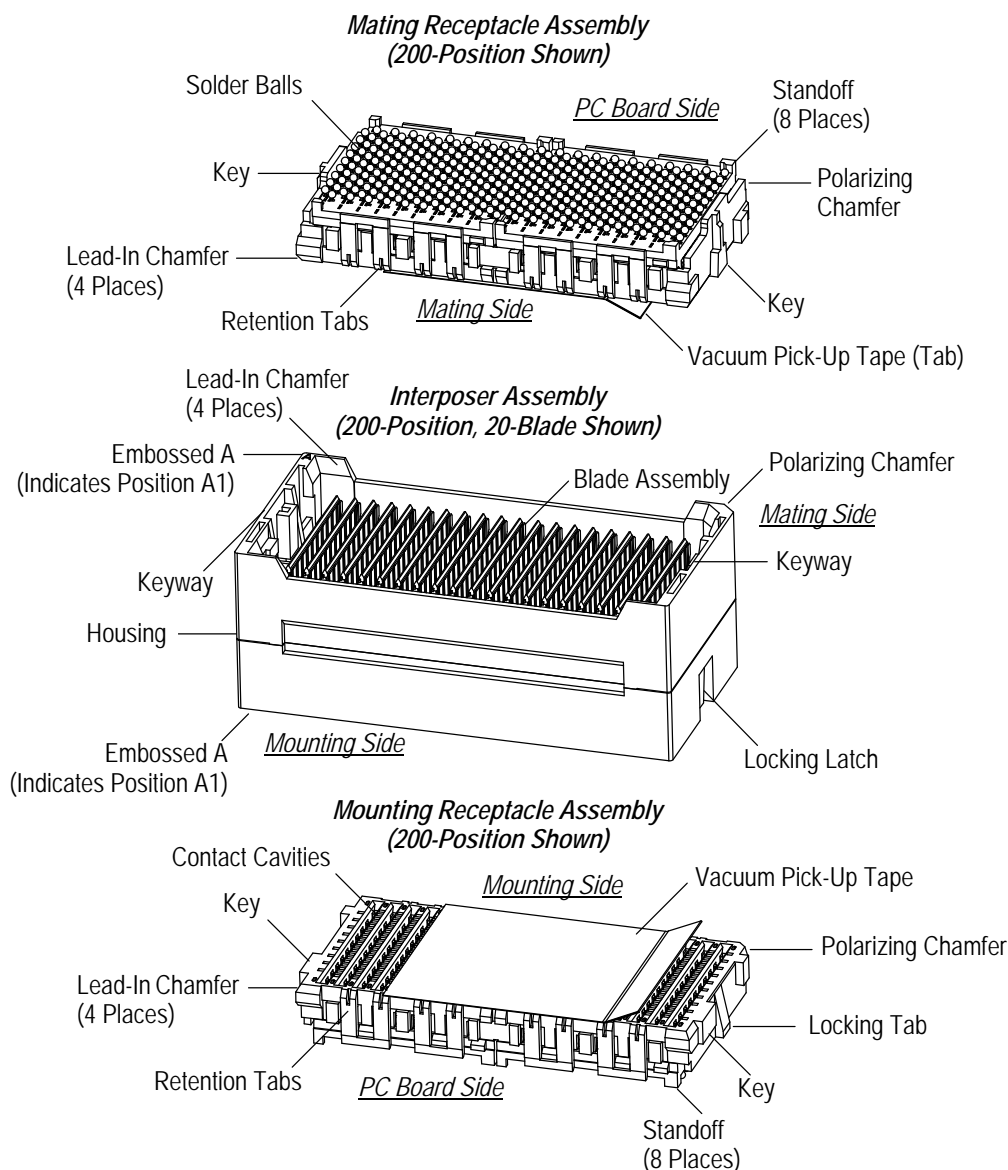

Figure 1
When corresponding with TE Connectivity (TE) personnel, use the terminology provided in this specification to facilitate your inquiries for information. Basic terms and features of this product are provided in Figure 1.